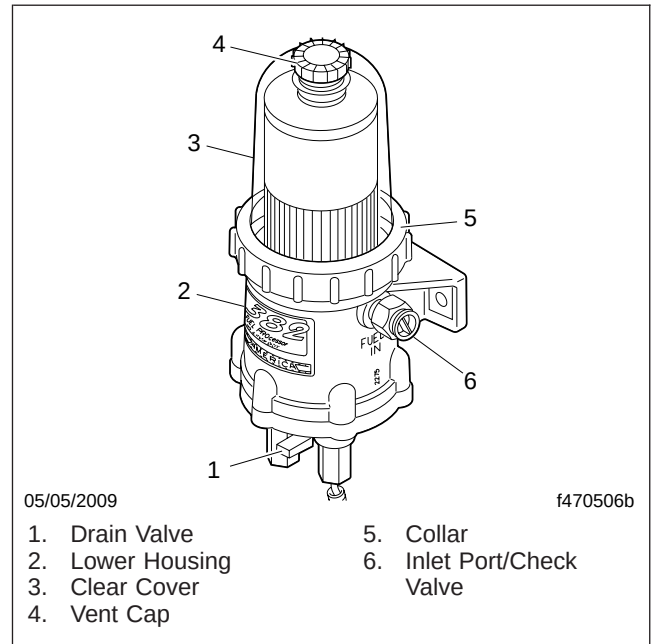

Fig. 1, DAVCO Fuel/Water Separator (Fuel Pro 382 Shown)
3. Remove the vent cap (**Fig. 1**, Item 4) and open the drain valve (**Fig. 1**, Item 1) to drain the fuel completely. Close the drain valve.